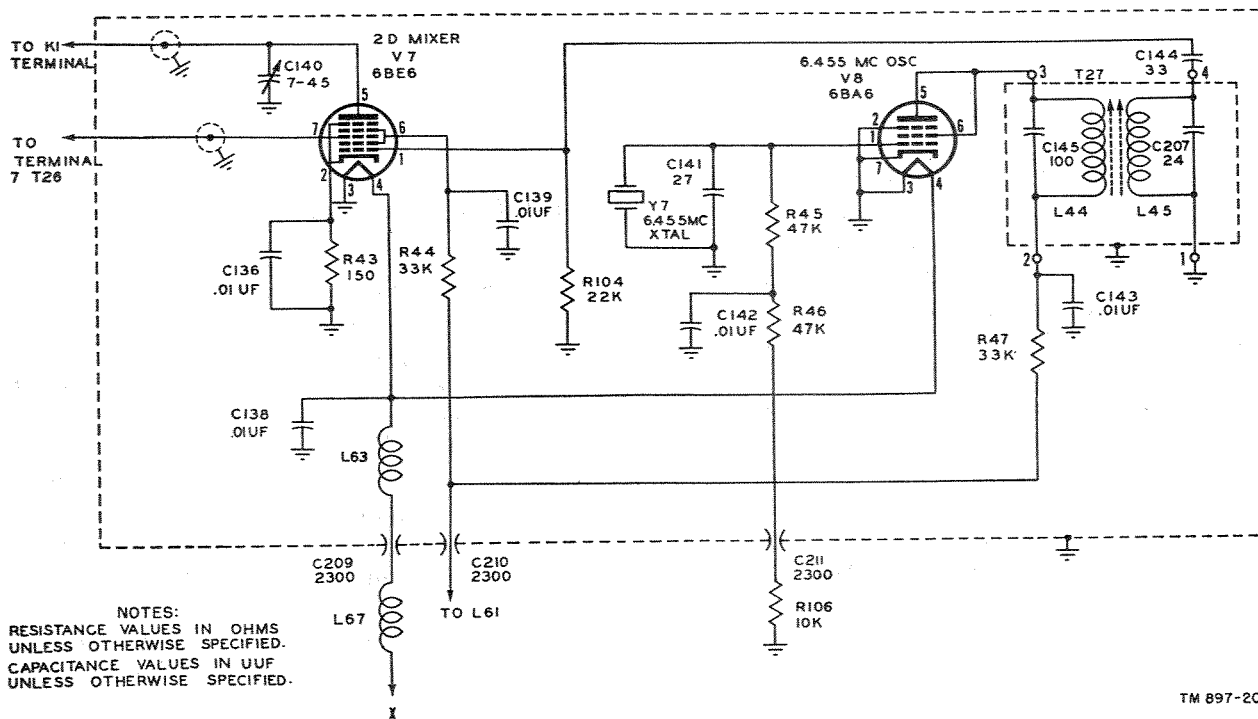

Figure 20. Radio Receiver R-274/FRR, functional diagram of 2d mixer and 6.455-mc oscillator.
a. The 2d mixer circuit is shown in figure 20. The 2d mixer tube (V7) is a type 6BE6 pentagrid converter tube which combines the 6-mc i-f signal with a signal coming from the 6.455-mc oscillator (V8) to produce a 455-kc signal. This 455-kc output then can be fed into the 455-kc i-f amplifier circuit for further amplification. In BANDS I, II, and III, the plate is shorted directly to +B without a load. Any spurious signals occurring at the plate of the tube are bypassed to ground through the power supply filter capacitors. In
a. The functional diagram of the 6.455-mc crystal oscillator is shown in figure 20. It is a crystal-controlled oscillator using a type 6BA6 pentode tube (V8) connected as a triode. The output is fed to the first grid of the 2d mixer (V7) to be mixed with the 6-mc i-f signal to produce a 455-kc i-f signal at the plate of V7. In BANDS I, II, and III, the oscillator (fig. 43) has -24 volts of bias applied, and does not function. In BANDS IV, V, and VI, this bias is removed, allowing the stage to oscillate as required.